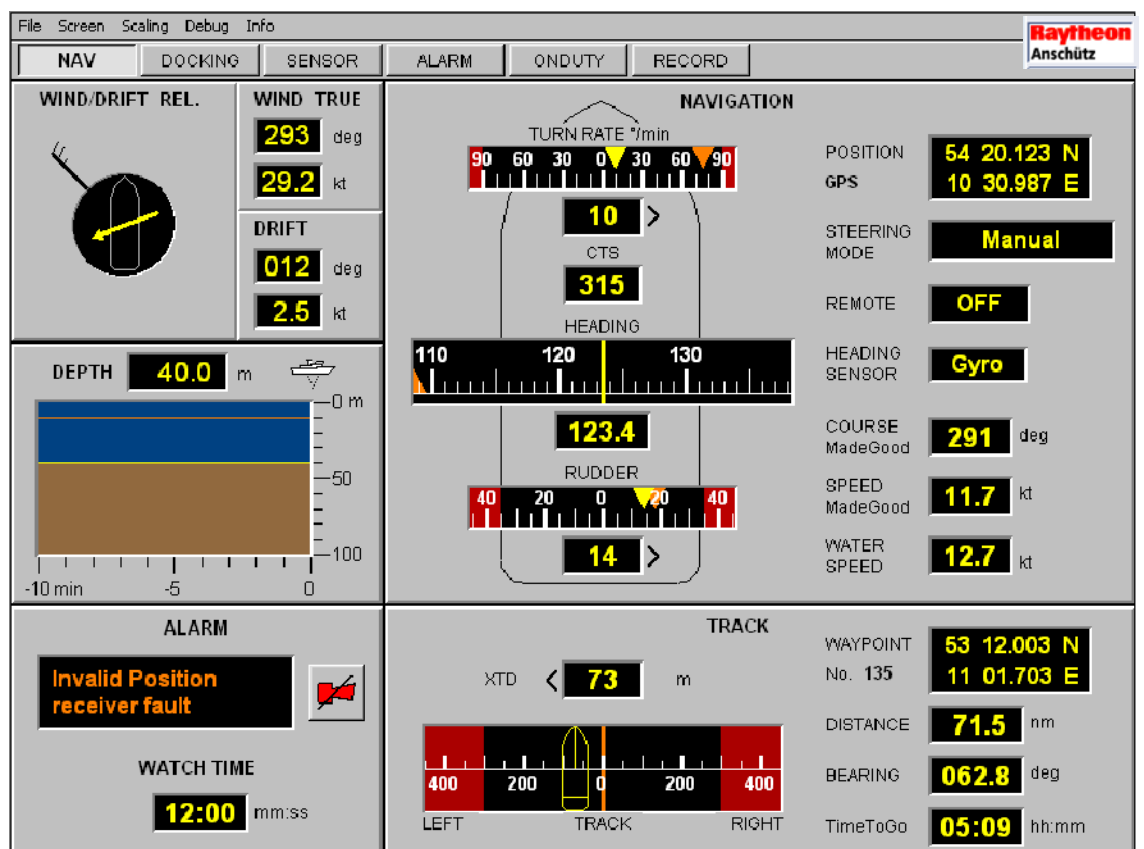

Figure: 1-1: Display „NAVIGATION“
- Manoeuvre-oriented Data and Alarm displays (see example Figure: 1-1)